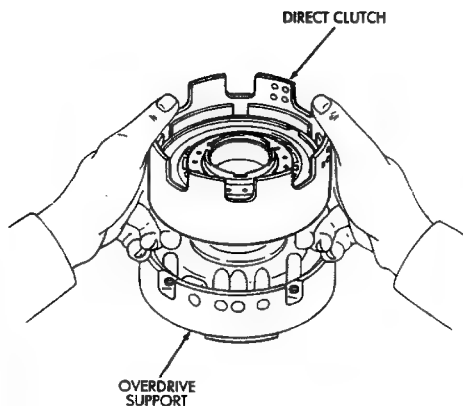

Fig. 4 Mount Direct Clutch On Overdrive Support
(3) Check clutch piston stroke length as outlined in following steps.
(4) Mount direct clutch on overdrive support assembly (Fig. 4).
(5) Mount dial indicator on clutch and position indicator plunger on clutch piston (Fig. 4).